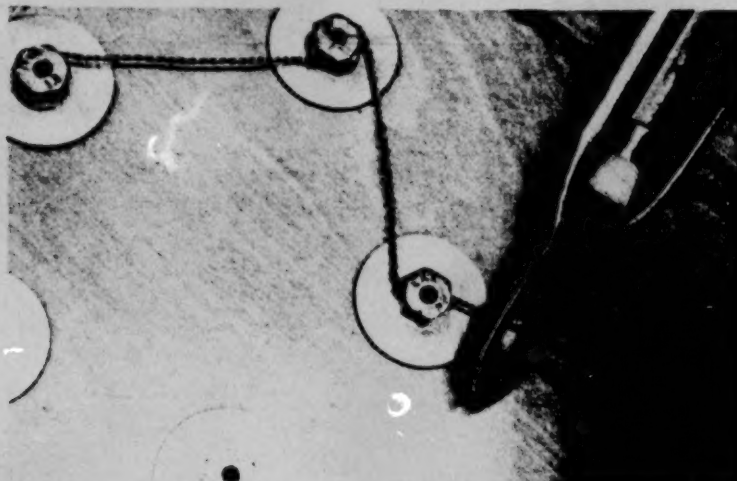

Figure 21. Pigtail $1/4$ to $1/2$ Inch Long.
20. Use the safetywiring pliers to cut the twisted wire so that a pigtail $1/4$ to $1/2$ inch long remains. See figure 21.